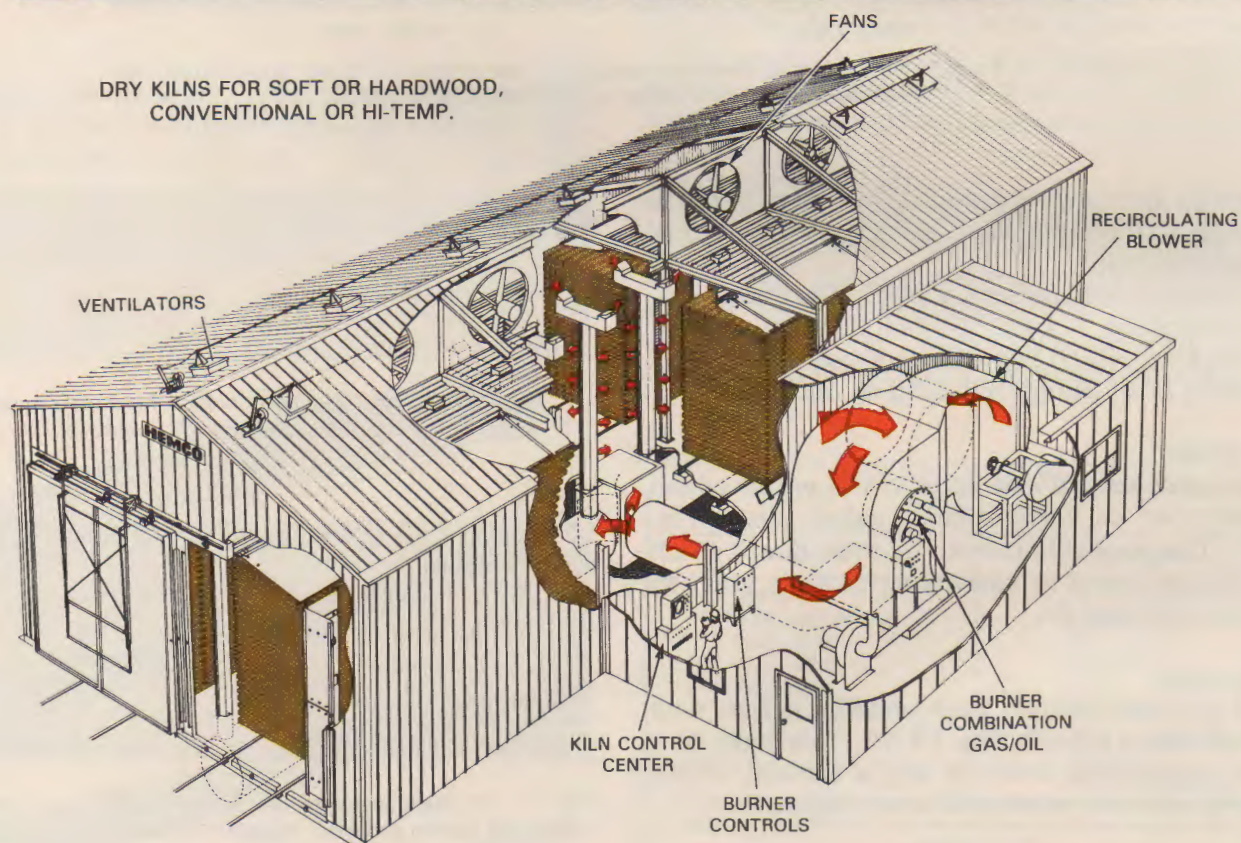

Fig. 11-9. Kiln drying. Lumber is transported into kiln on rails and dried using circulating, heated air.
The moisture content of *kiln-dried* (KD) *lumber* is reduced using large ovens, called kilns. Circulating air passes through the lumber which, like air-dried lumber, is *sticked*, Fig. 11-9. The temperature and humidity of the air are controlled to promote gradual, even drying. Steam is added at first to increase humidity. This prevents sudden surface drying which would cause checks and splits. The humidity is then reduced and the temperature gradually increased to a constant level until drying is complete. The time required to complete this process depends on the type of wood, efficiency of the kiln, and amount of wood to be seasoned. Most kiln drying is complete within 24 hours.